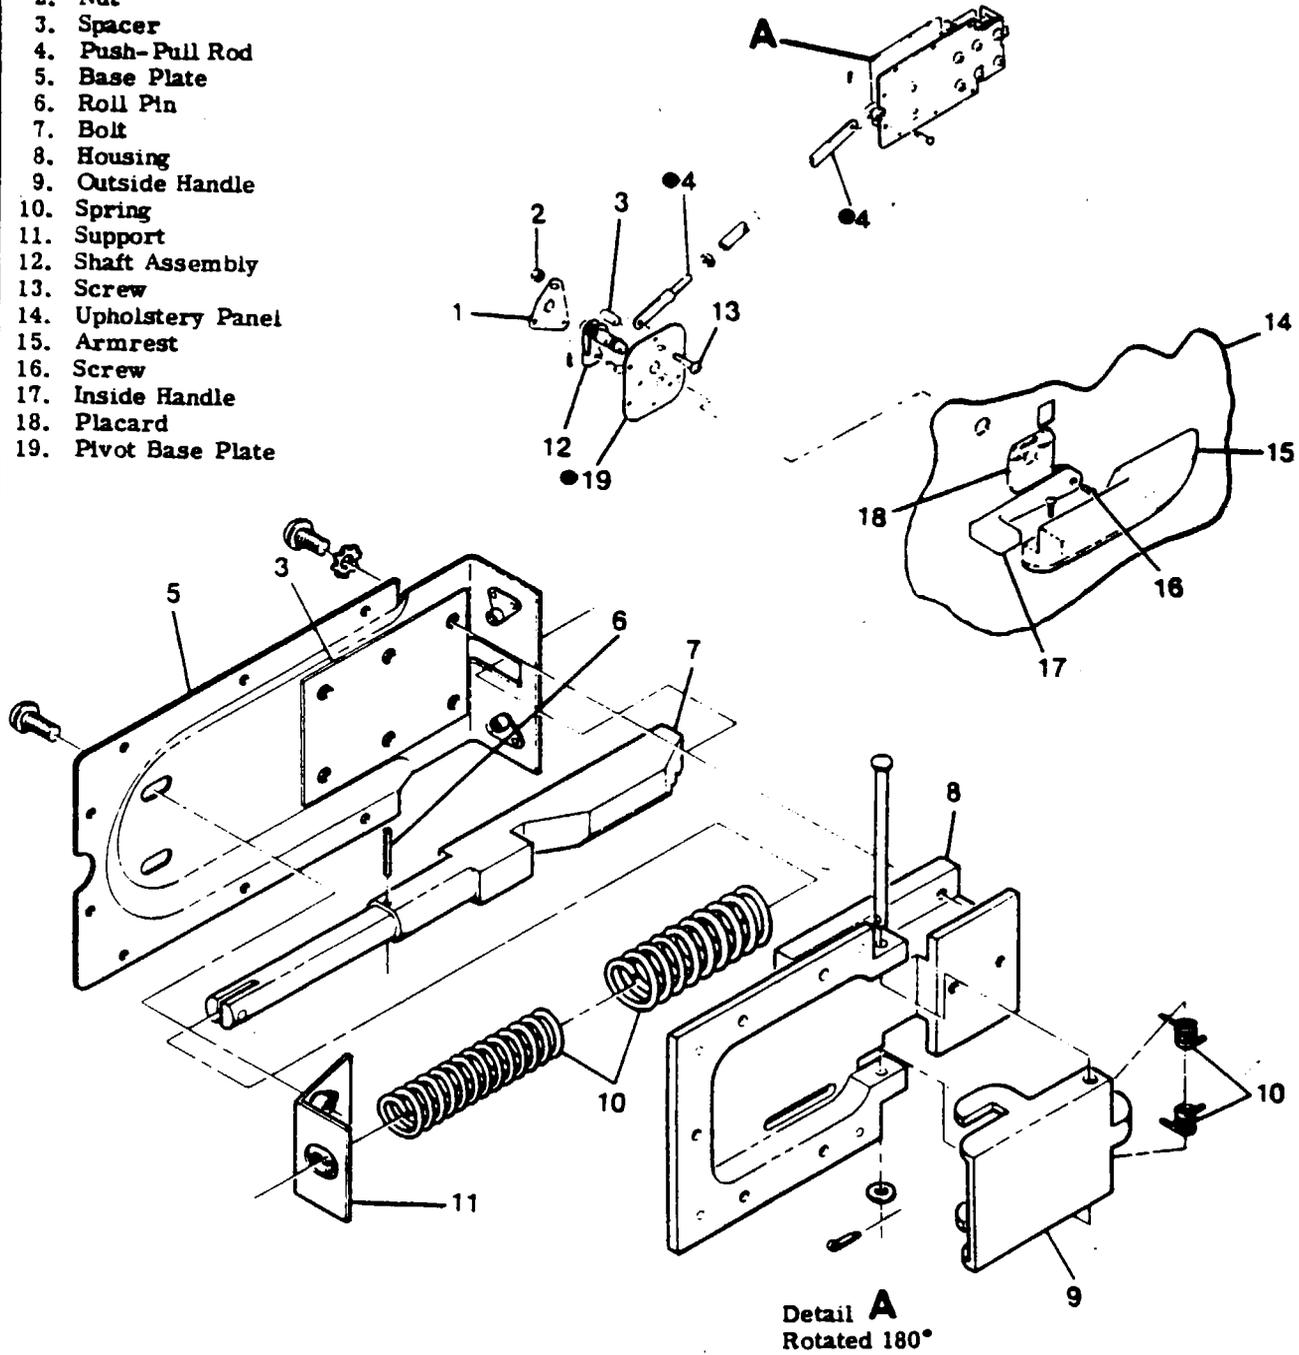

Figure 3-4. Door Latch Installation
- 3-25. **LATCHES** (Thru 17275034 and F17202134). (See figure 3-4.)
Refer To Figure 3-4
- 3-29. **INDEXING INSIDE DOOR HANDLE.** (See figure 3-4.) When inside door handle is removed, reinstall in relation to position of bolt (7), which is spring-loaded to the CLOSE position. The following procedure may be used.
- Temporarily install handle (17) on shaft assembly (12), approximately vertical.
- Move handle (17) back and forth until handle centers in spring-loaded position.
- Without rotating shaft assembly (12), remove handle (17) and install placard (18) with CLOSE index at top.
- Install handle (17) to align with CLOSE index on placard (18), using screw (16).
- Install arm rest (15) on upholstery panel (14).